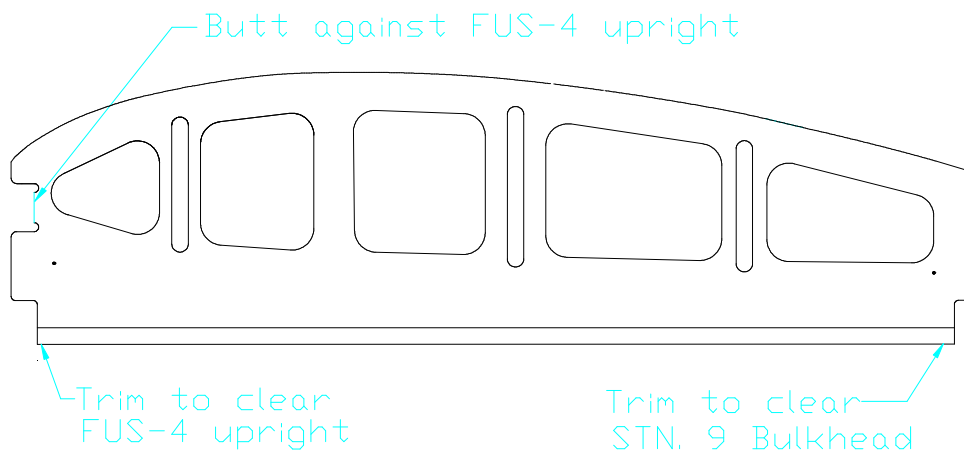

Figure 9.9.1
1) Trim the cabin root ribs (FUS-27 left and right) as in Figure 9.9.1.